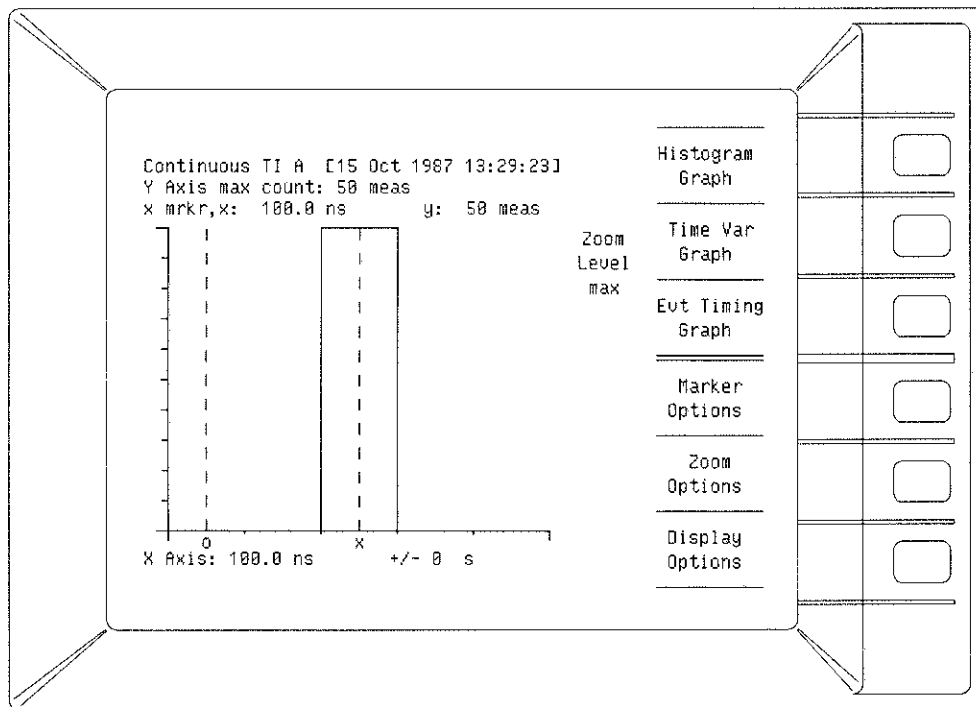

Figure 2-3. Histogram Graph
- C. A histogram should be displayed that shows a large bar and, in some cases, much smaller bars. The smaller bars indicate that 1 or 2 of the measurements were slightly lower or higher than average. The X-axis range should be somewhere between 99.0 ns and 101.0 ns. Such a histogram is shown in *Figure 2-3*.